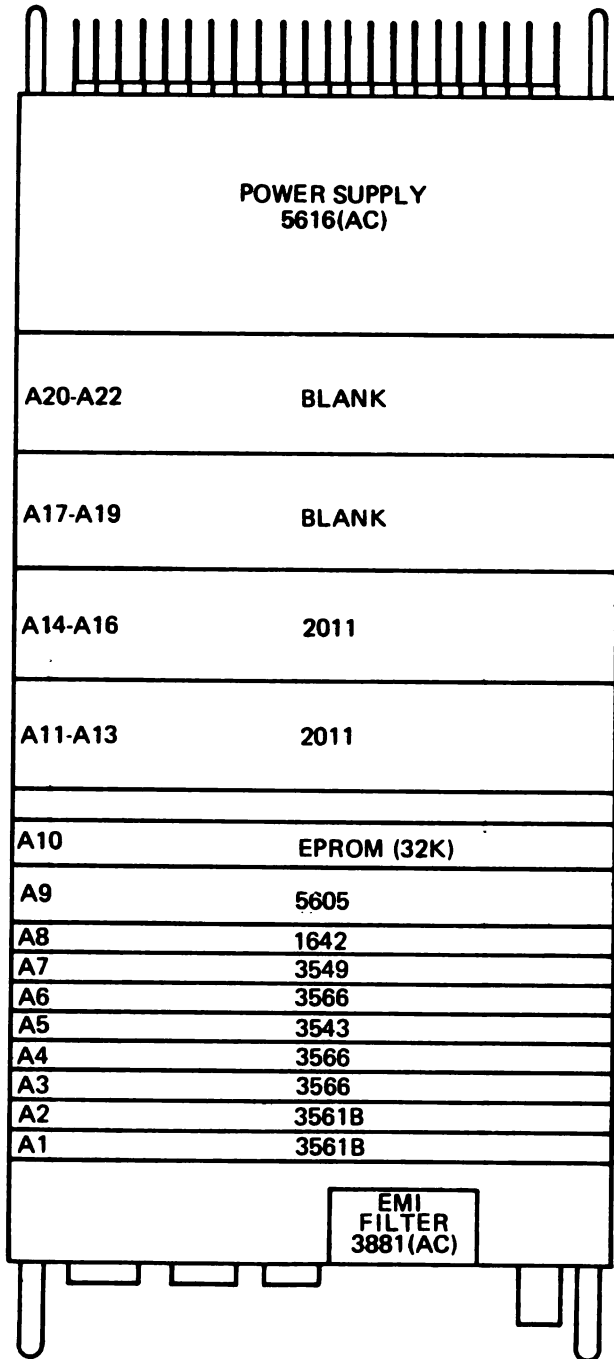

Figure C1-1. AN/UYK-19 Processor Configuration for AN/MLQ-34 (TACJAM) System
b. Configuring Processor. To configure the processor for the AN/MLQ-34 (TACJAM) system, as shown in figure C1-1, proceed as follows:
2. Refer to table C1-1 and figure C1-1 and remove any circuit card that is not in configuration (para 2-39).